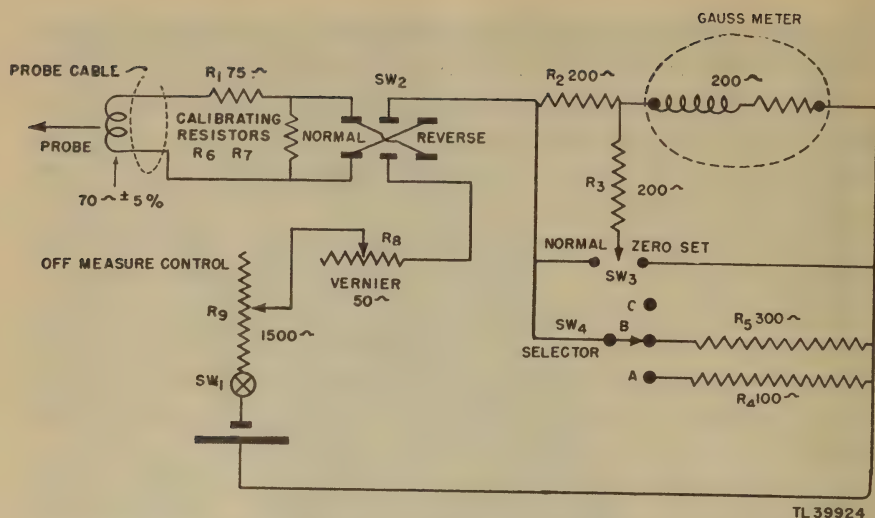

Figure 5. Fluxmeters TS-15A/AP and TS-15B/AP, schematic diagram.
a. Fluxmeters TS-15/AP, TS-15A/AP, and TS-15B/AP have essentially the same basic circuit (figs. 5 and 6). The fundamental features of this circuit consist of two milliammeters (probe meter and gauss meter) in series with a 1.5-volt battery and a rheostat to control the battery current. The gauss meter measures the current through the circuit and is accurately calibrated to give readings directly in gaussses on three scales. Gaussses are magnetic units of measurement indicating magnetic lines of force per square centimeter, one gauss representing one magnetic line of force per square centimeter. The probe meter has no internal magnet but is actuated by the magnetic flux in the gap of the magnet under test. The deflection of the probe meter pointer is constant for all measurements and is therefore dependent upon two properties: namely, the amount of current through the probe meter coil and the flux density in the magnet gap. These two properties determine the torque on the coil. This torque is kept a constant value by setting the probe meter to the red mark for each measurement. The current and flux density vary inversely to each other, the probe meter requiring less current through its coil in strong magnetic fields and more current through the coil in weak magnetic fields for the fixed amount of deflection.
b. Referring to the schematic diagram (fig. 5), note that the gauss meter on Fluxmeters TS-15A/AP or TS-15B/AP can be shunted by either one of two resistances of different values or the shunt removed by operating the range selector switch. When using the low range of the fluxmeter, set the selector switch to position A, which puts the lowest value of resistance in shunt with the gauss meter. This allows the maximum amount of current to pass through the probe meter coil, permitting full-scale deflection of the probe meter pointer with small values of flux density. When the selector switch is set to position B, a larger value of resistance shunts the gauss meter and a larger value of flux density can be